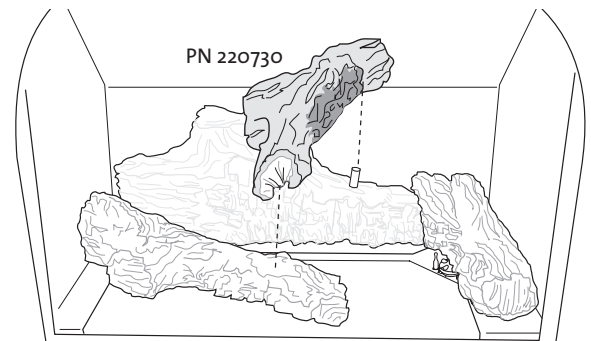

Figure 13. Install middle log.
4. Install middle log on the appropriate pegs shown in fig. 13.